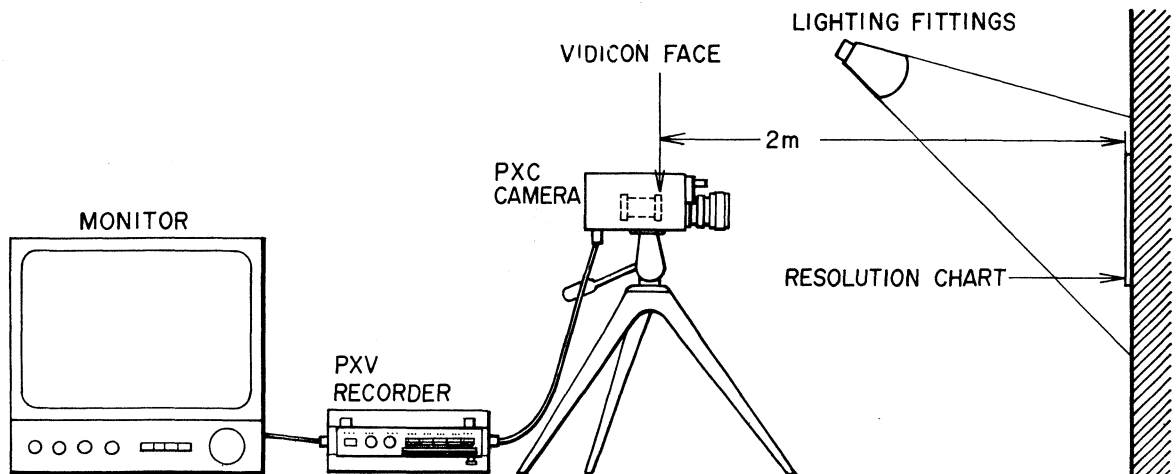
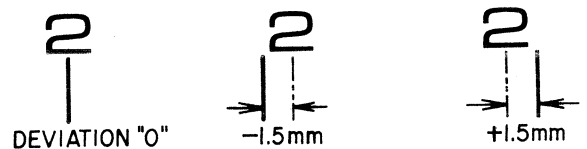

Fig. 2-1 Preparation for camera adjustment
Fig. 2-5
1. As in Fig. 2-1, hang a resolution chart on a wall and try to obtain a lighting intensity of 1000 Luz.
Under conditions shown in Fig. 2-1, set converter lens distance scale to 2 meter position, and rotate master lens until picture on monitor screen is focused. Deviation of indicator line must be within 1.5 mm from the center of "the numeral 2" as shown in Fig. 2-5.
Under conditions in Fig. 2-1, with 1000 Lux lighting intensity at resolution chart, adjust VR-5 so that the composite video signal amplitude is 1.4 V p-p.
Under conditions in Fig. 2-1, when VR-4 is turned, the focus current is changed and the monitor picture tilts sideways. Adjust this condition by turning centering magnets until center of monitor picture and center of raster is aligned.
1. Under conditions shown in Fig. 2-1, set camera so that picture of resolution chart is positioned in the center part of monitor screen.